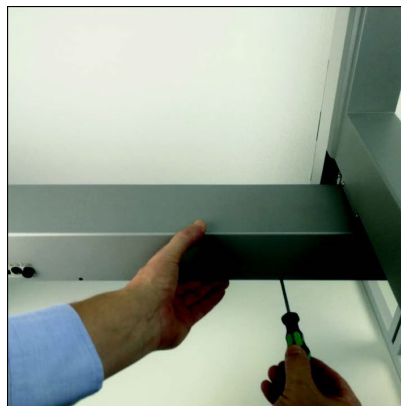

Figure 109: X-beam Rear Cover Assembly 3
3. Using a Torx Tx10 screwdriver, fasten the mid screw positions. Note that the screw is reachable using the hole in the cover. See Figure 109.